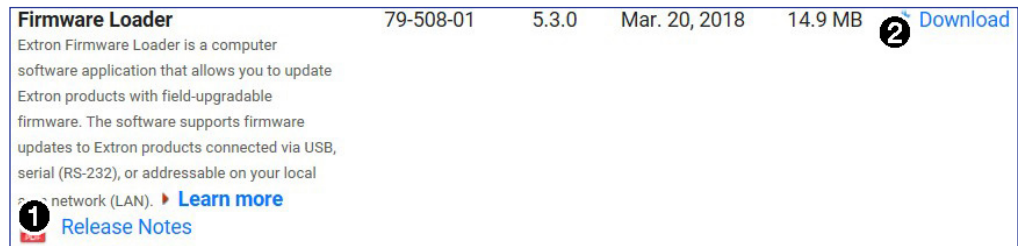

Figure 16. Download Firmware Loader
5. (Optional) Click **Release Notes** (see figure 16, ❶) for more information.
6. Click the **Download** (❷) link. The product download screen opens.